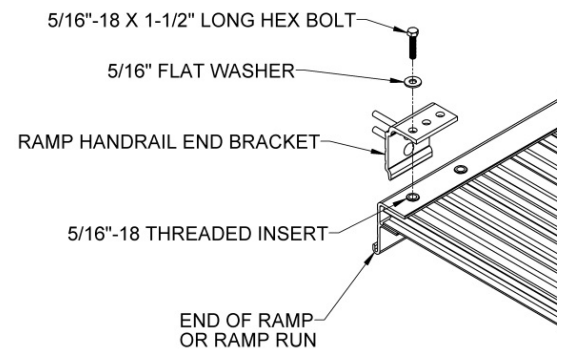

FIG. 3.2
- 3.1.6. Locate PRHBPR (RAMP HANDRAIL END BRACKET PAIR). Install four end brackets (these will be used to attach handrails in a later step). Use one end bracket at each outside corner of the ramp or ramp run using one 5/16" x 1-1/2" bolt and washer into the threaded insert closest to the end of the ramp (FIG. 3.2).